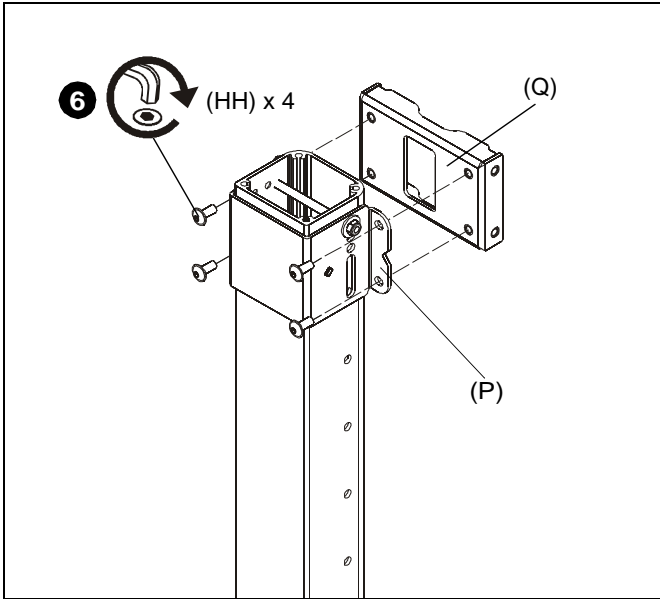

Figure 11
- Use four 5/16-18 x 3/4" button head flange screws (HH) to secure each attached clamp bracket (P) to a quick connect base (Q). (See Figure 11)